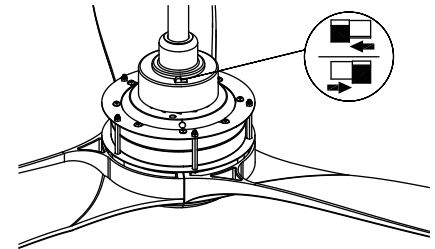

Fig. 31
4. REV switch: Controls direction, forward or reverse. (Fig. 31)